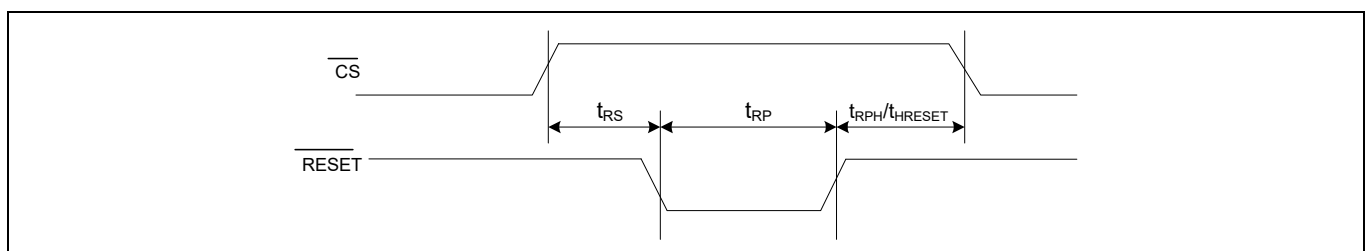
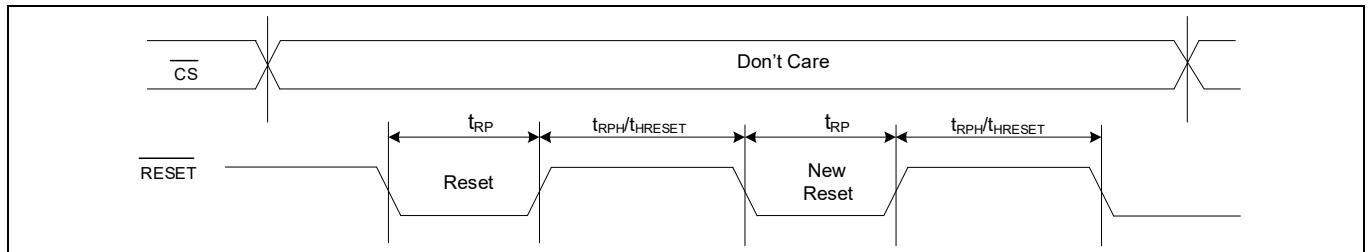

Figure 109 $\overline{\text{RESET}}$ timing - SPI with QUAD set (CR1[1] = 1) or QPI enabled (CR2[6] = 1)
Figure 110 $\overline{\text{RESET}}$ timing - SPI with QUAD clear (CR1[1] = 0) and QPI disabled (CR2[6] = 0)
The hardware reset input ($\overline{\text{RESET}}$) is multiplexed on ($\overline{\text{RESET}}$ / (I/O3) and is an active LOW signal in CY15x108QSN device. Refer to Table 21 for hardware reset (RESET) pin configurations across various SPI interfaces. When $\overline{\text{RESET}}$ is pulled LOW, CY15x108QSN self initializes and brings its configuration back to the power up status. Refer to Table 59 for different registers configuration after $\overline{\text{RESET}}$ cycle. Once $\overline{\text{RESET}}$ is issued, CY15x108QSN takes $t_{\text{RPH}}/t_{\text{HRESET}}$ time from $\overline{\text{RESET}}$ rising edge to complete the reset cycle. CY15x108QSN becomes inaccessible during t_{RPH} time. Figure 109 and Figure 110 show the $\overline{\text{RESET}}$ timings in different reset mode.
- The $\overline{\text{RESET}}$ pin is multiplexed on I/O3 in the QPI mode. When using the hardware ($\overline{\text{RESET}}$) in QPI mode, the CR2 [5] bit must be set to '1' to enable to use I/O3 as $\overline{\text{RESET}}$ input when $\overline{\text{CS}}$ is HIGH. Figure 109 shows the $\overline{\text{RESET}}$ / (I/O3) timing in QPI mode.